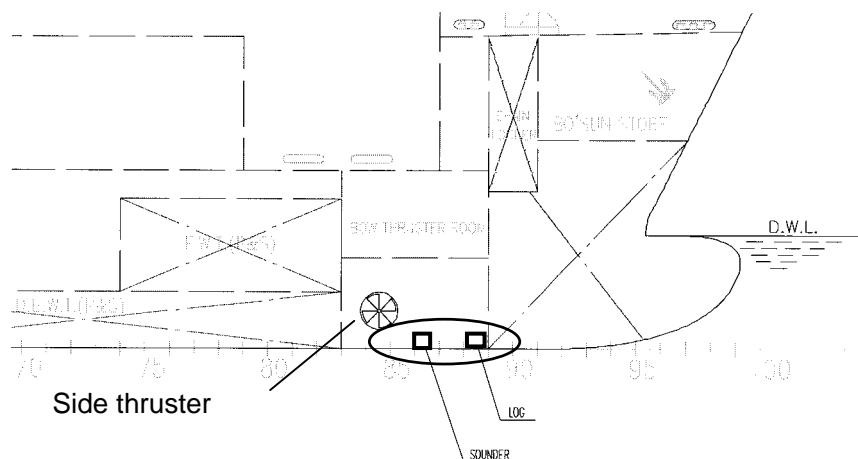

Fig. AP1.1.2 Location of transducer
- The example of an installation is Fig. AP1.1.2.